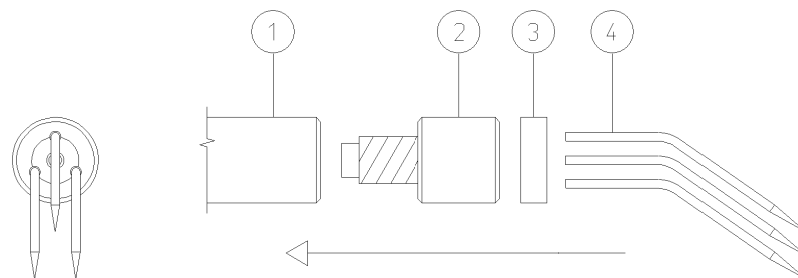

Figure 1.
5.2.3. Pinner with head claw option (see Figure 1)